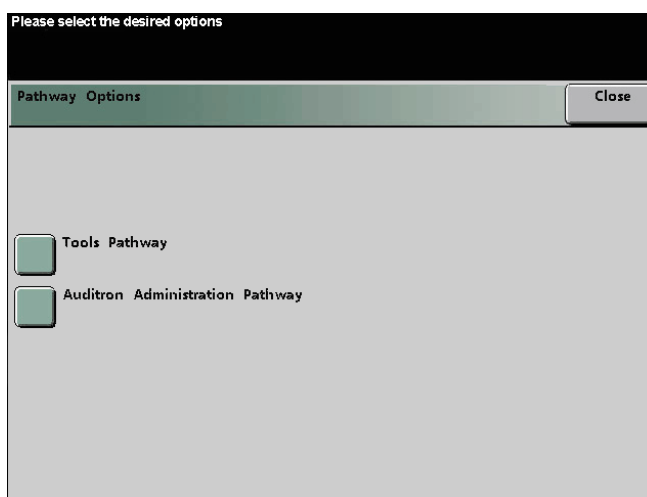

Figure 1. Pathway Options screen
- 3** Touch the **Enter** button on the screen. The Pathway Options screen appears, as shown in Figure 1.